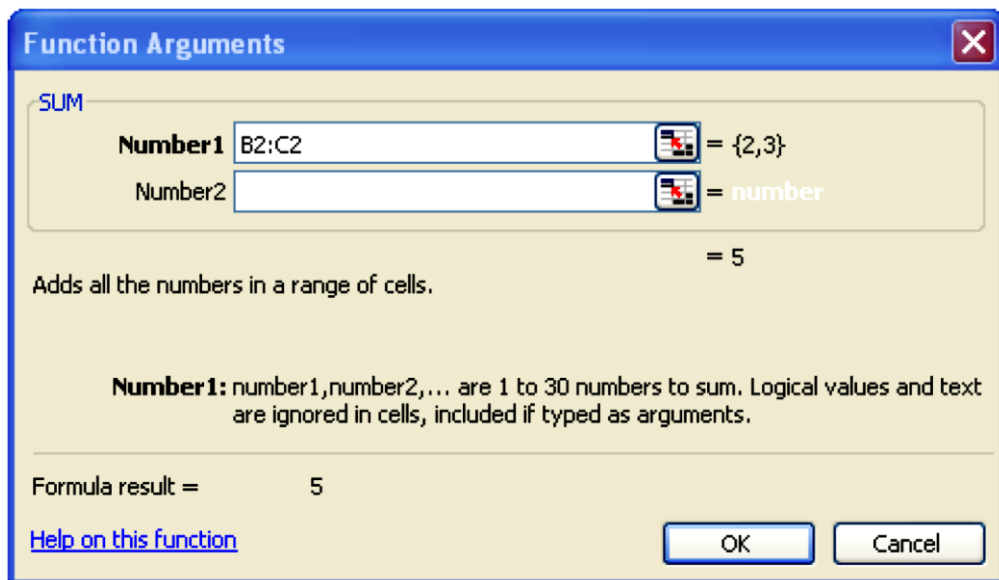

Figure 5
- 5- The next window (**Fig. 5**) allows you to choose the cells that contain the arguments of the function. In this example, cell B2 and C2 are selected to compute their sum. The values of the cells B2, and C2 are, respectively 2 and 3. Excel identifies the range of the cells in the function to (B2:C2). In the lower part of the **Function Argument** dialogue box you can see the formula result.